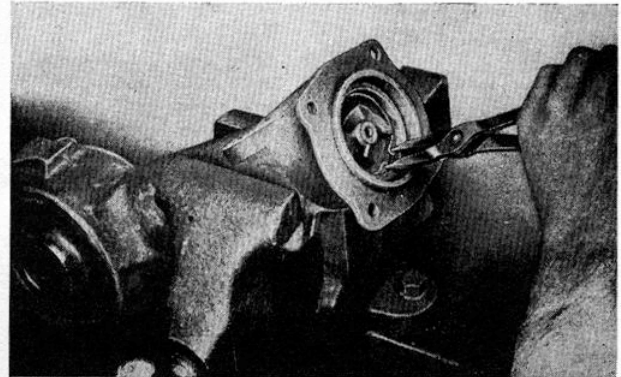

FIG. 45—REMOVING CLUTCH DOG RETAINING SNAP RING
- a. Change position of tiller drive housing in vise as shown in figure 45, then remove snap ring which secures clutch dog to drive shaft with Plier GP-17.